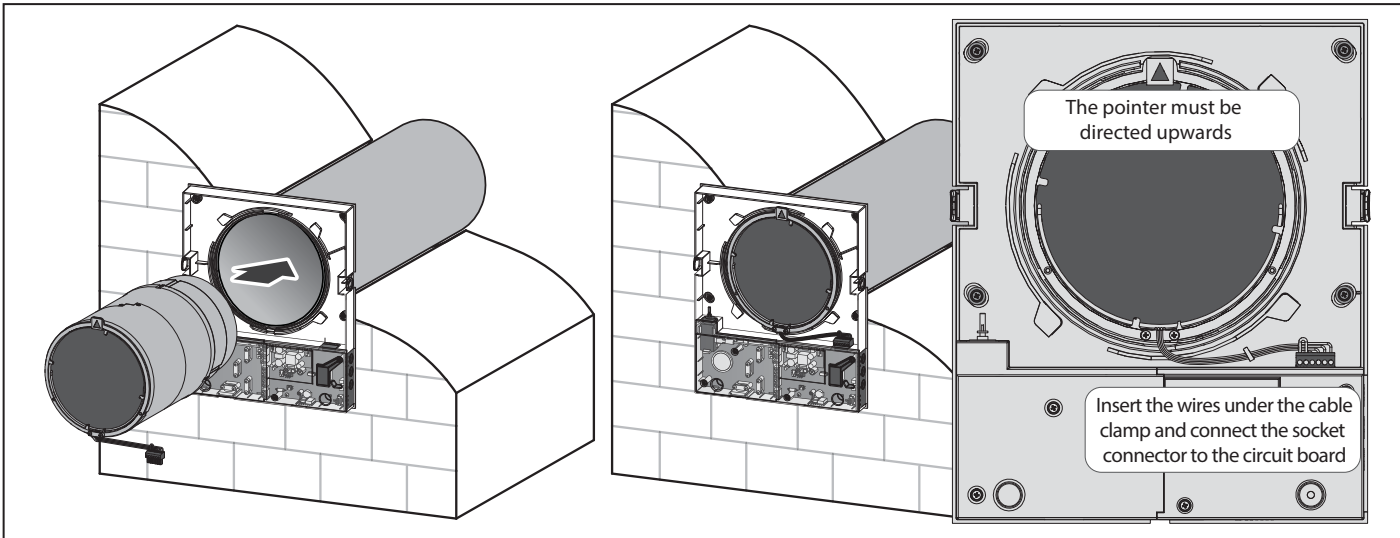

Fig. 11.
7.7. Insert the cartridge into the air duct (see Fig. 11). The pointer must be directed upwards. Then fix the wire with the protruding clamp and connect